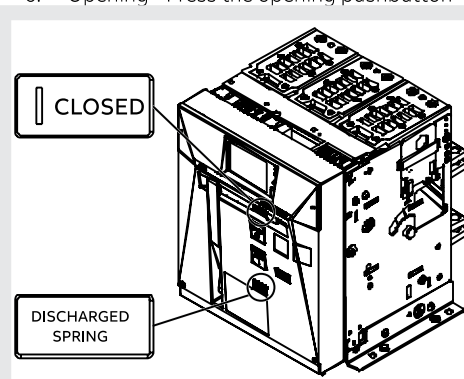

Figure 62
5. Make sure that the circuit-breaker is closed. The “O - CLOSED” open/closed indicator indicates closing. Check that the springs are discharged. The “DISCHARGED SPRING - white colour” spring indicator indicates that the springs are discharged, as illustrated in Figure 62.